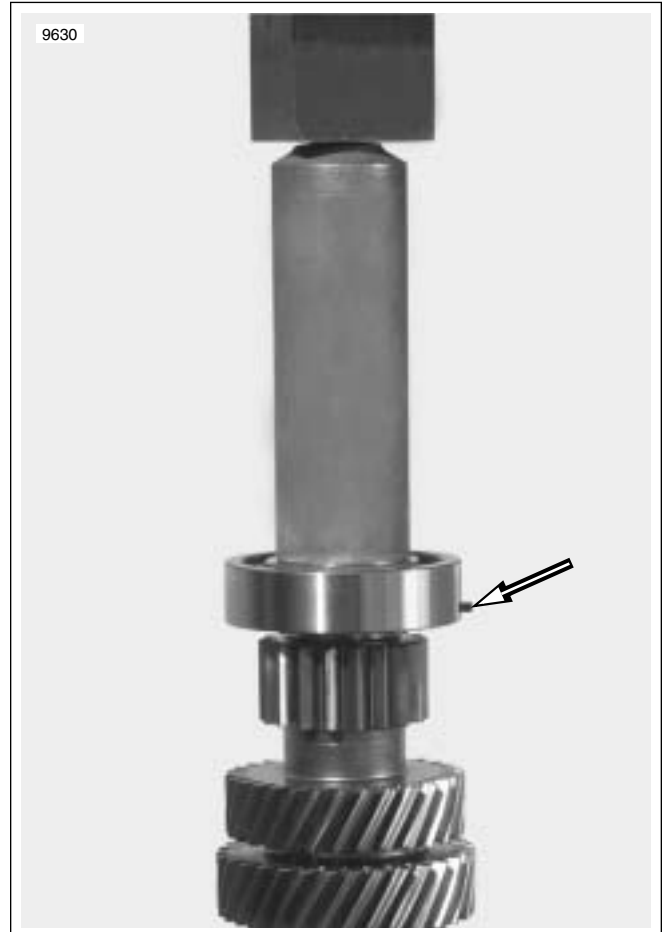

Figure 7-58. 1st Gear Bearing Replacement
10. See Figure 7-58. Install **new** bearing, with bearing alignment pin offset toward the gears. Use a pressing ring so installation force is on the inner race only.